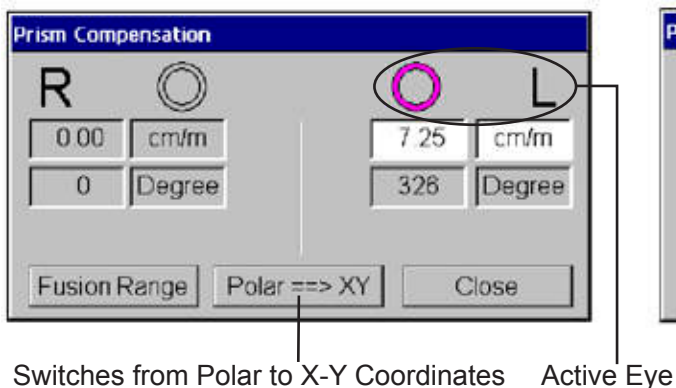

Figure IS-12 Polar Coordinates
1. Press the corresponding Function Buttons on the Controller to select any of the 3 options on the bottom of the Prism Compensation box. Refer to Figures IS-12 and IS-13.